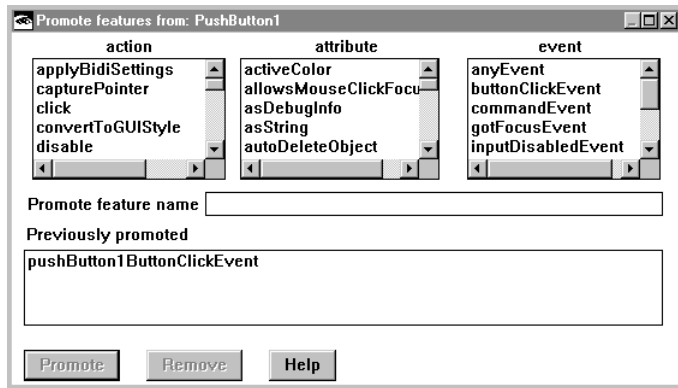

Figure 61. Promoted Feature Added to Previously Promoted List
7. Select the **Promote** push button. The feature name is added to the **Previously promoted** list box, as shown in Figure 61 on page 156.